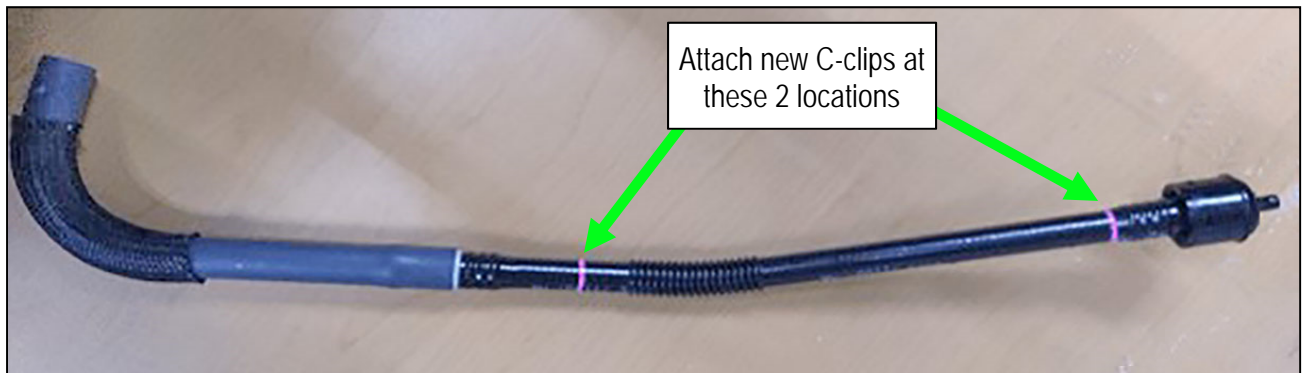

Figure 4
- Attach two (2) new C-clips to the new EVAP canister filter vent hose at the locations marked in pink in Figure 4.